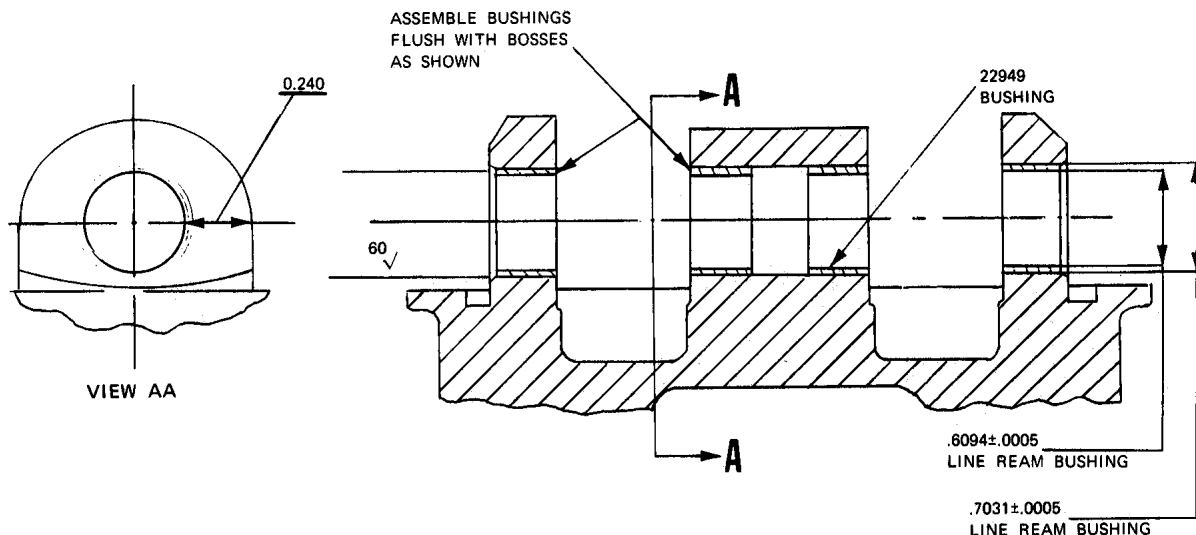

Figure 22. Dimensions of Rocker Shaft Boss Bushings
- g. If the rocker shaft is excessively loose in the cylinder head support bosses they may be brought back to standard size by boring or reaming in line and installing repair bushings. The center line of the enlarged boss bores must be 9.901-9.911 inches above the cylinder base flange mounting surface, in order that the reamed bushing bores will maintain the same distance. This dimension is important, because variations in spacing of the rocker axis from the camshaft will change the mechanical clearance in deflated valve lifter units and may make them inoperative. The minimum boss wall thickness measured at the edge of the center boss prior to any reaming and bushing must be 0.240 inch. The bore surface must be 60 RMS after reaming. (See Figure 22.)